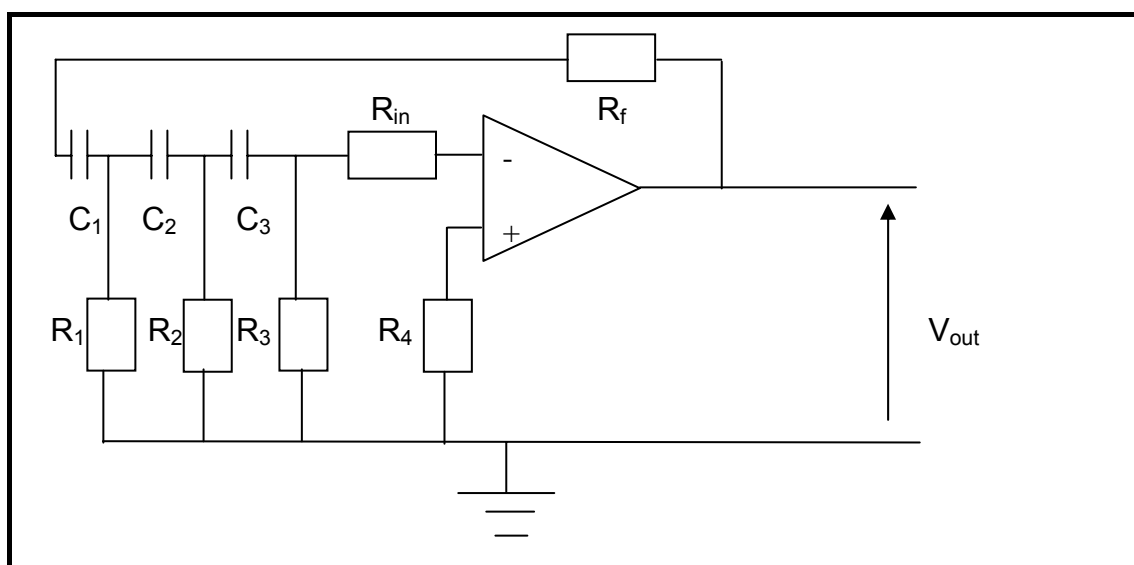

FIGURE 7.3 – PHASE SHIFT OSCILLATOR
7.2 The phase shift oscillator shown below in FIGURE 7.3 is used in a circuit. If each resistor has a value of $1\text{ k}\Omega$ and each capacitor has a value of 100 pF , calculate the following: